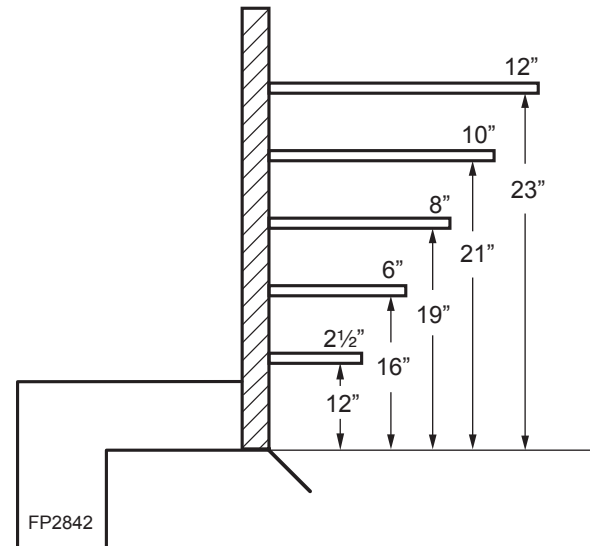
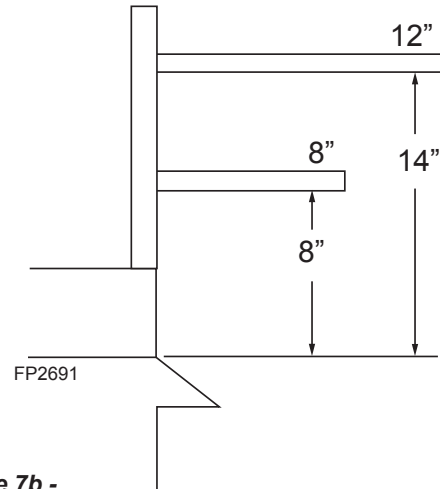

Figure 7a -
Figure 7b -
5. **Mantel clearances:** The canopy supplied with the unit must be installed. If a combustible mantel is installed, it must meet the clearance requirements as shown in Figure 7a. However, if lower mantel height is desired, refer to Figure 7b.